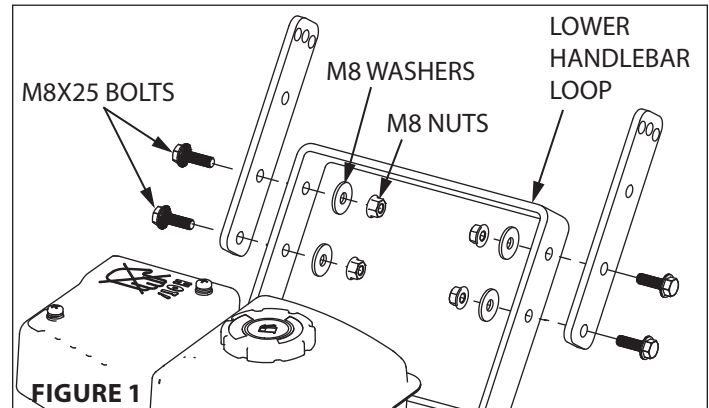
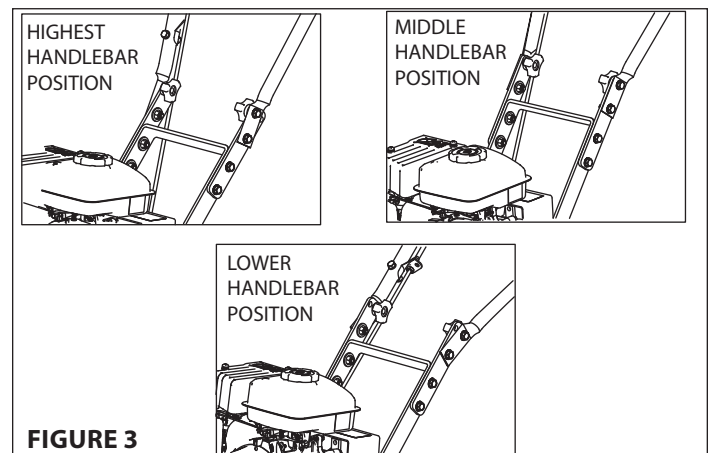

FIGURE 1
FIGURE 3
4. Assemble the upper handlebar onto the lower handlebar loop as follows: **SEE FIGURES 1 AND 2**
- a. Use the two (2) middle handlebar straps to connect the upper handlebar to the lower handlebar loop.
- c. Install six (6) washers and tighten with six (6) M8 nuts on the six (6) bolts.
- d. Tighten the two (2) M8 hand knobs on the two (2) M8 x 20 bolts in the upper most hole on each side of the handlebar.
NOTE: The two (2) upper bolts and hand knobs can be used in one of three hole positions for handlebar height adjustment. SEE FIGURE 3